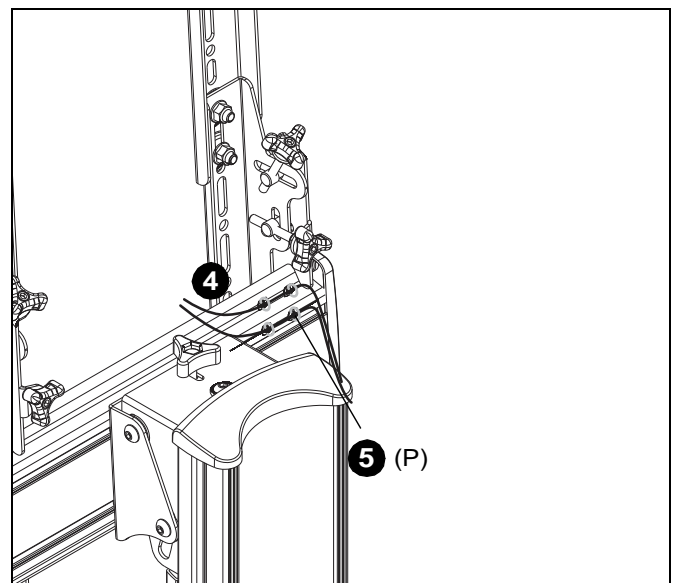

Figure 8
4. Route cables along FCA clips to be used for cable management. (See Figure 8)
5. Use cable ties (P) to secure cables to FCA clips. (See Figure 8)